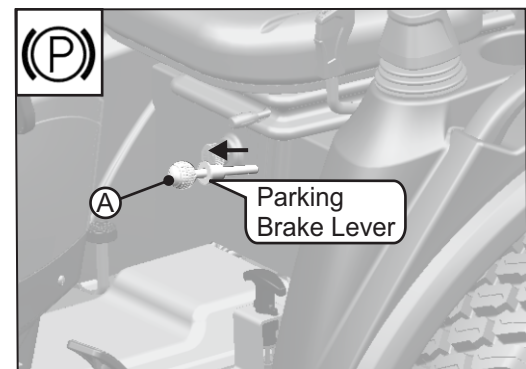

Fig. 4.19
- Pull the parking brake lever upward to operate the parking Brake (fig. 4.19).
- Press sleeve (A, fig. 4.19) in forward direction, push the parking brake lever downward and release the sleeve 'A'.